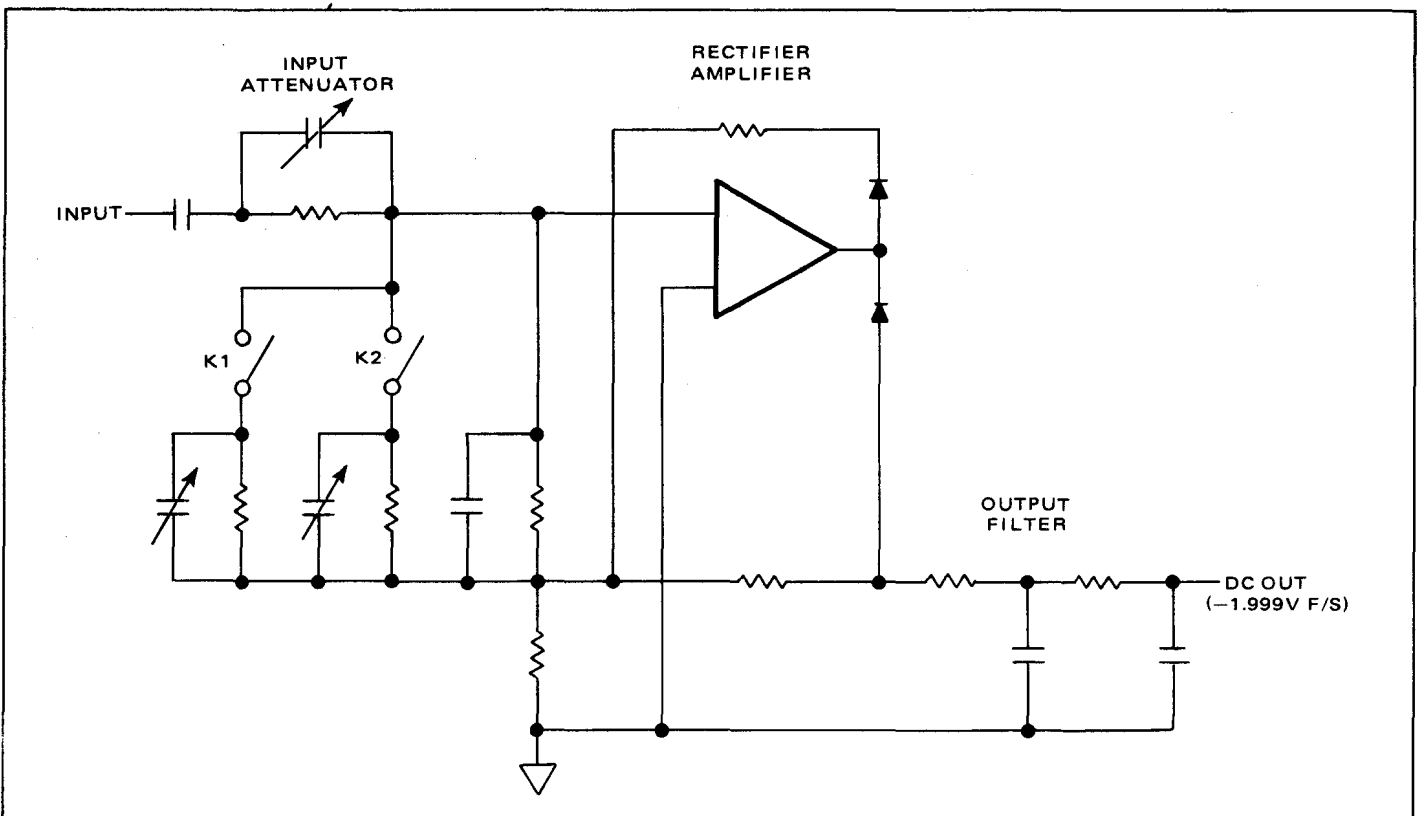

Figure 4.7 - AC Converter (Averaging)
4.18 *AC Converter.* The AC Converter is shown in simplified form in figure 4.7. As shown on the diagram it consists of an input attenuator network, a rectifier amplifier, and an output filter. The input attenuator network serves to scale down the input measurement voltage and is controlled by the range relays K1 and K2. On the .2 and 2V ranges neither of these relays is energized and the input voltage is applied directly to the rectifier amplifier. On